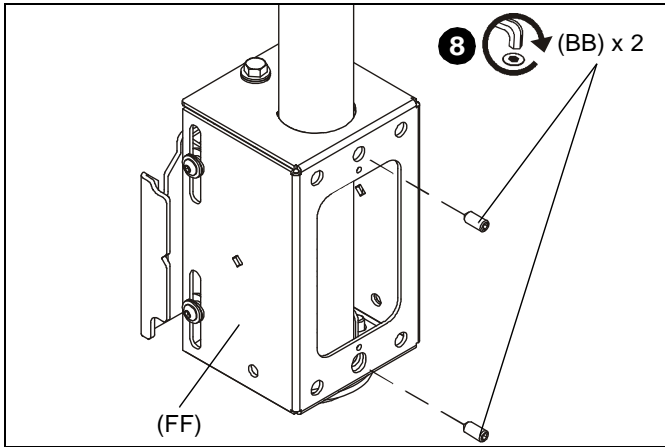

Figure 8
8. Tighten two 5/16" x 3/4" set screws (BB) against column. (See Figure 8)